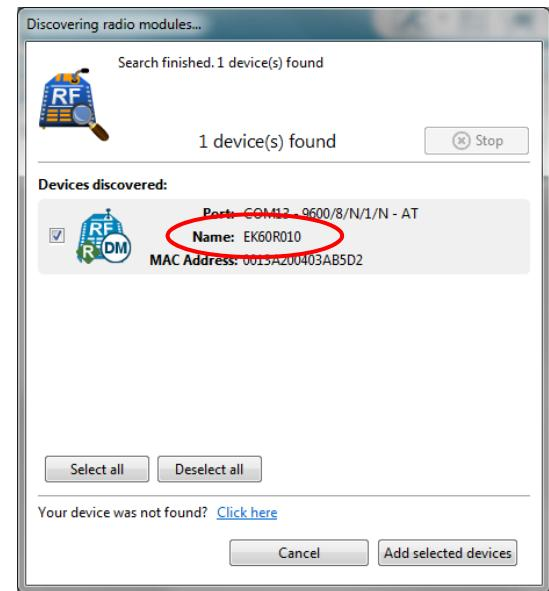

Figure 40: Discovering radio modules window.
- f. Click on the “Finish” button to continue. A new window will open which will show the device discovered on the PCs COM port. When the device appears on the “Devices discovered” portion of the window, verify that the correct device has been identified (Figure 40). Note: The devices name should be “EK60R010”. Once the device appears, select the “Add selected devices” button to select the base station transceiver.